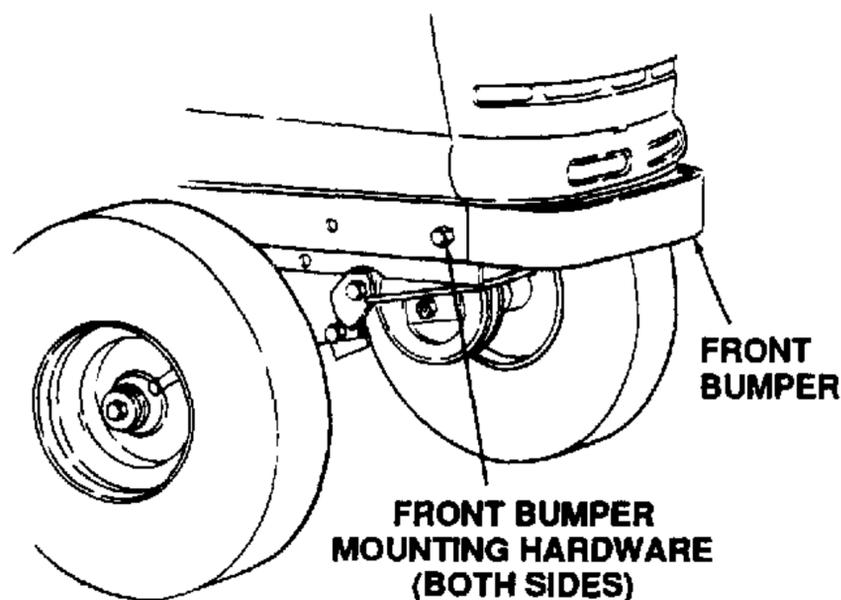

Figure 7-25. Removing Front Bumper.
1. Remove the front bumper from the frame (see Fig. 7-25) by removing the hex wash. tapp screw from each side. Store the screws and bumper for later reassembly.